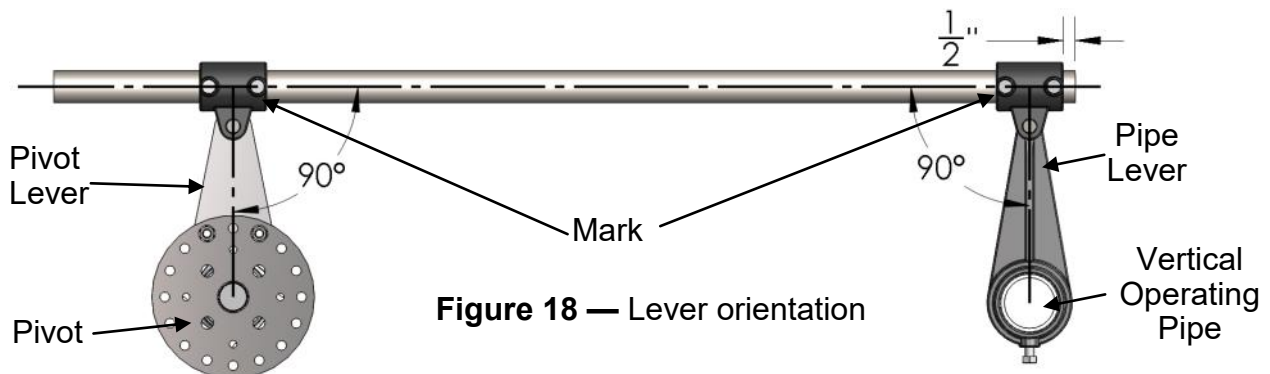

Figure 18 — Lever orientation
- 6. Mark both points shown in Figure 18 with a dark marker to check for slippage during trial operations.